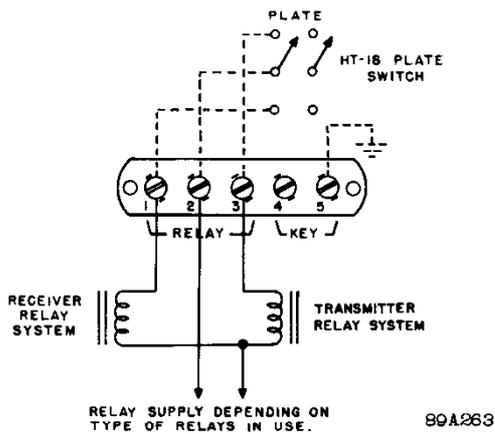

Figure 2. External relay connections
1. RELAY and KEY TERMINAL STRIP - For c-w operation, connect a key across terminals 4 and 5 as indicated; for strictly phone operation connect a jumper between terminals 4 and 5. If the transmitter and receiver are relay controlled refer to Fig. 2. for suggestions as to the use of terminals 1, 2, and 3 of this terminal strip. Other uses may be made of the section of the PLATE switch reserved for external switching if relays are not used in the installation.